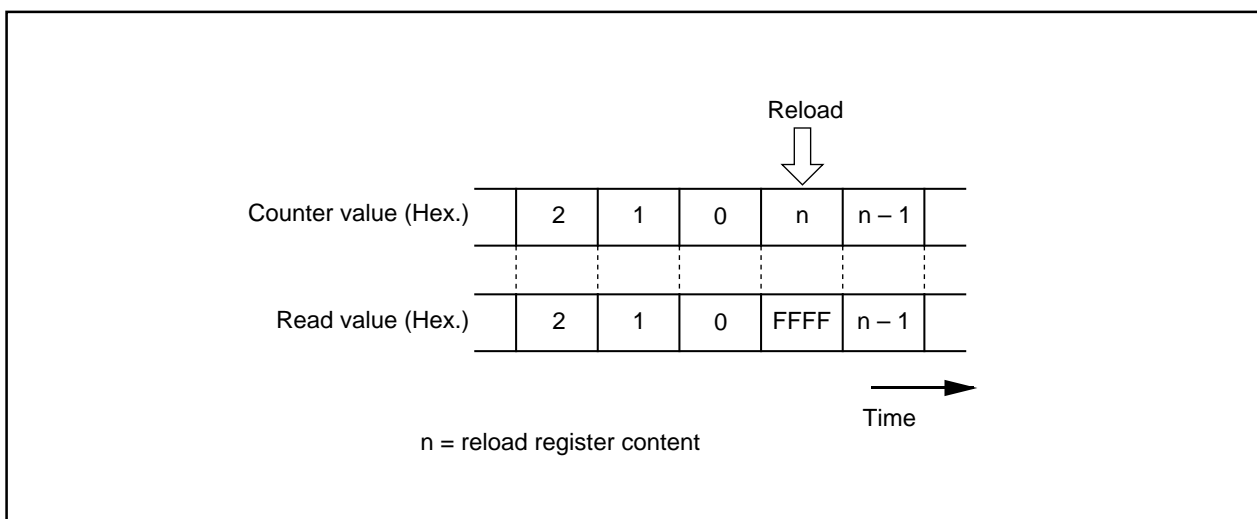

Figure 2.3.12. Reading timer Bi register
- (1) To clear reset, the count start flag is set to "0". Set a value in the timer Bi register, then set the flag to "1".
- (2) Reading the timer Bi register while a count is in progress allows reading, with arbitrary timing, the value of the counter. Reading the timer Bi register with the reload timing shown in Figure 2.3.12 gets "FFFF₁₆". Reading the timer Bi register after setting a value in the timer Bi register with a count halted but before the counter starts counting gets a proper value.